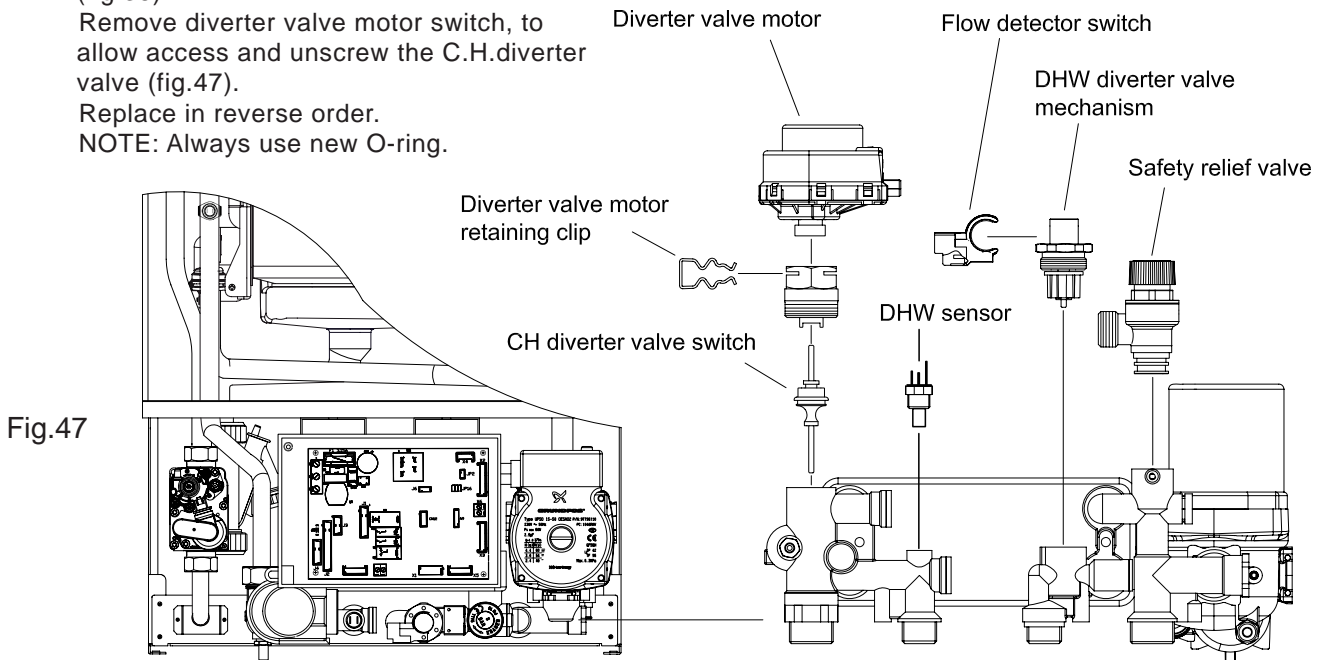

Fig.47
**8.13 TO REMOVE/REPLACE DIVERTER VALVE MOTOR (Fig. 47)**
**8.14 TO REMOVE/REPLACE C.H. DIVERTER VALVE (Fig. 47)**
Remove diverter valve motor switch, to allow access and unscrew the C.H.diverter valve (fig.47).
**8.15 TO REMOVE/REPLACE D.H.W. DIVERTER VALVE MECHANISM ( Fig. 47)**
**8.18 TO REMOVE/REPLACE SAFETY RELIEF VALVE (Fig. 47)**
**8.19 TO REMOVE/REPLACE D.H.W. SENSOR (Fig. 47)**